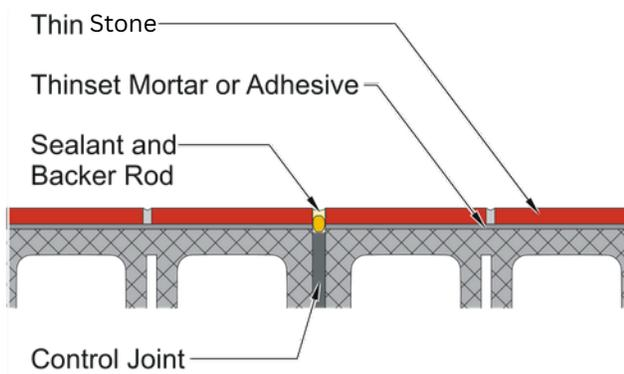
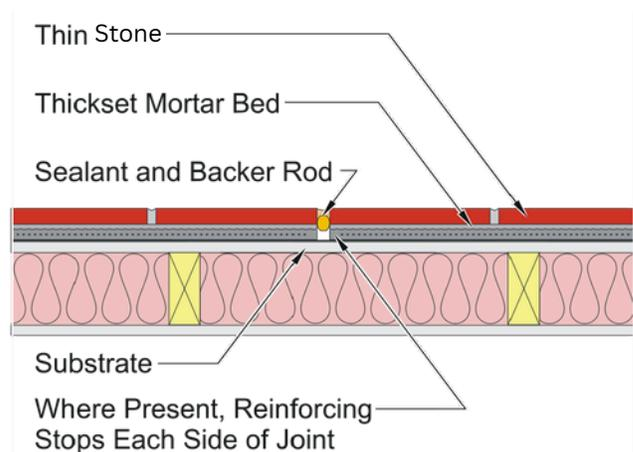

Figure 7 Thin Stone veneer Movement Joints on CMU Backing
Figure 8 Thin Stone veneer Movement Joints on Stud Backing
**Construction.** Movement joints should extend from the exterior surface of the adhered veneer to the substrate beneath the thin stone veneer. Where modular panels are used, construct movement joints in accordance with manufacturer's instructions. Alignment of movement joints with those in the substrate is more easily achieved when they are formed during installation of mortar beds. A compressible filler strip set during mortar placement can provide the space needed for the joint as well as aid in keeping the joint free of mortar or other obstructions. At the exterior surface, a backer rod and sealant prevent water penetration, as shown in Figure 7. Movement joints must be at least as wide as joints in the substrate that they are placed directly over. The minimum recommended width of movement joints through adhered veneer is  $\frac{3}{8}$  in. (10 mm). In thick set applications, lath or mesh reinforcement should stop on each side and not continue through the movement joint, as shown in Figure 8.